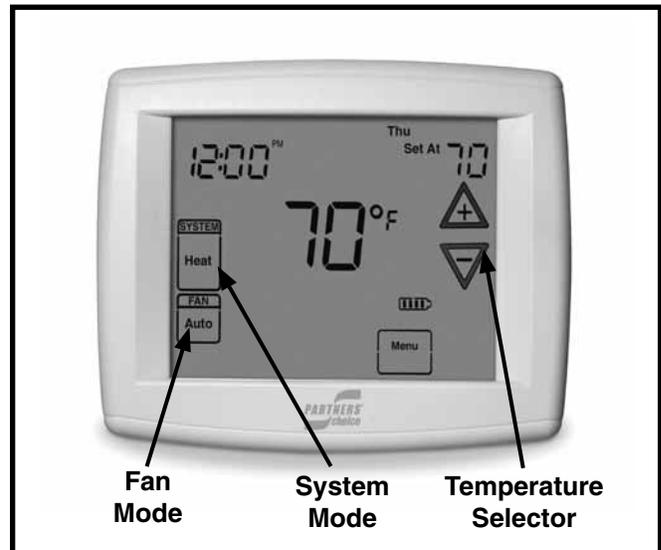

Figure 1. Digital Thermostat
1. Set the thermostat system mode to COOL and the thermostat fan mode to AUTO. See Figure 1.
1. Set the thermostat system mode to Heat and the thermostat fan mode to AUTO. See Figure 1.
Set the thermostat system mode to OFF and the thermostat fan mode to AUTO. See Figure 1. **NOTE:** The system will not operate, regardless of the thermostat temperature selector's setting.
Set the thermostat fan mode to ON (or CONT on some thermostat models). See Figure 1.
1. Set the thermostat's system mode to HEAT or AUTO and change the fan mode to AUTO. See Figure 1 (pg 3).